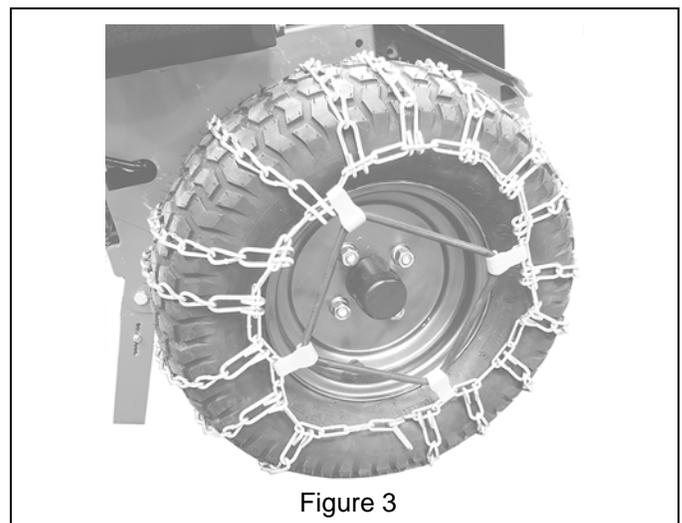

Figure 3
7. Clip the chain tensioners (Item 2) to chain links in a square pattern with the flat side of clips facing out. See Figure 3.